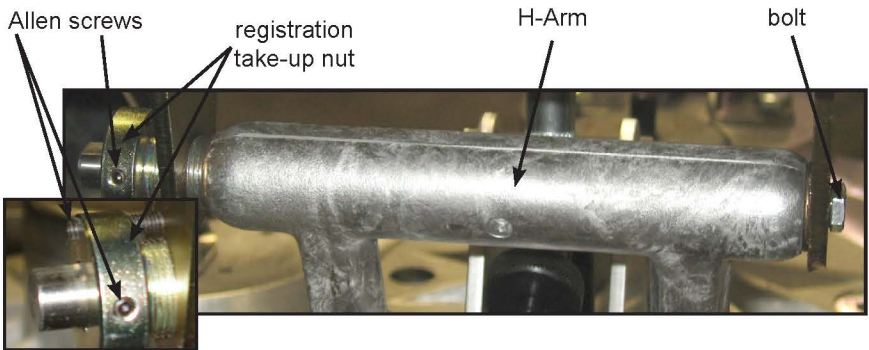

Fig. 24
9. Before proceeding to the next print head alignment, measure the distance between the end of the shirt board clamp and the registration guide on the print arm. This distance should be the same for all the other shirt boards in the setup process. (Fig. 24) Adjust if necessary see shirtboard position pg. 3